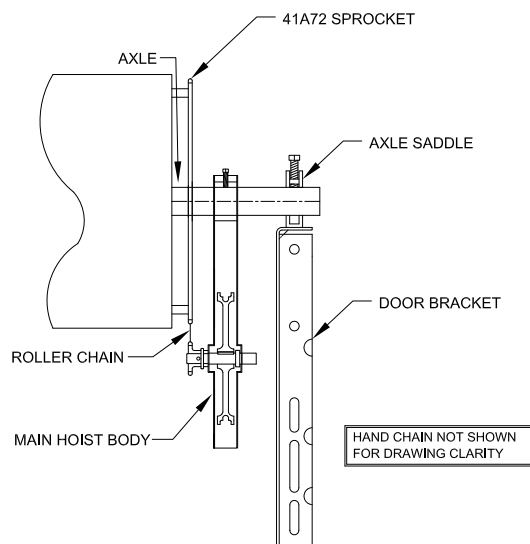

Figure 18.
13.2 **Reduced-drive operator** — 8:1 chain hoist assembly should be installed as described in Section 4 and shown in Figure 18.
13.2.1 Reduced-drive operator - 8:1 Chain hoist assembly should be installed as described in Section 4 and shown in Figure 18.
13.2.2 Connect the drive chain around both sprockets, using the masterlink provided. Do not secure the chain hoist assembly to the axle at this time. See Figure 18.